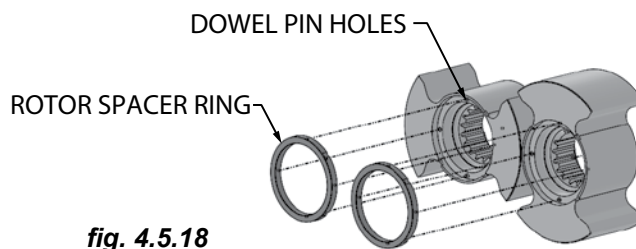

fig. 4.5.18
4.5.2.4.5 FoodFirst Rotor Spacer Installation (reference fig. 4.5.18 and 4.5.19)